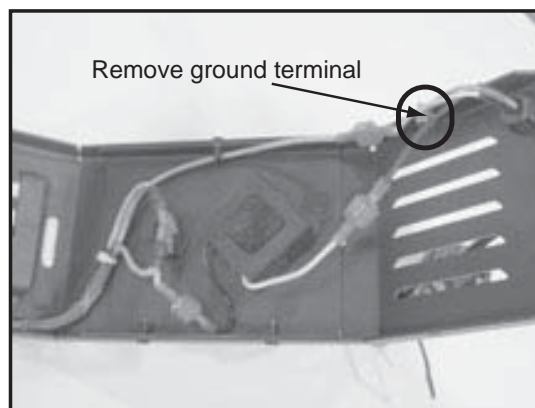

Figure 19.1
2. Remove the green ground terminal from the housing by using a 11/32 inch wrench and Phillips head screwdriver. **Figure 19.1.**